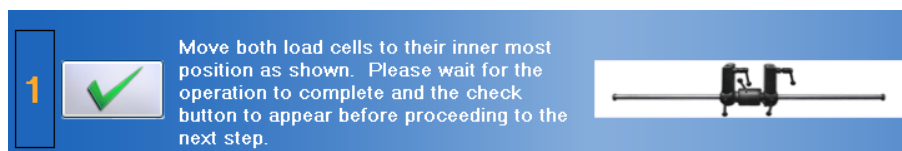

Figure 10-27. UTM - Set the Initial Locations
Step 2. Click on  to set the initial locations (Figure 10-27).